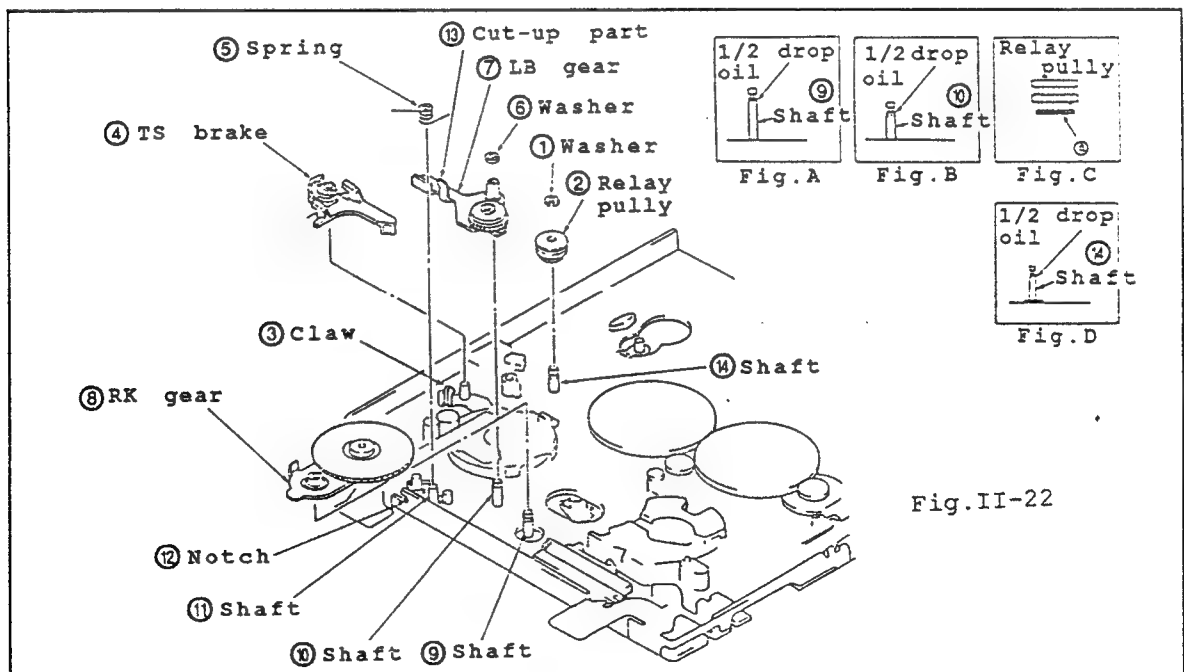

Fig.II-22
• Disassembling (Fig.II-22)
- (1) Set unloading state.
- (2) In the same procedures in "3-3", dismount the capstan motor.
- (3) In the same procedures in "3-13", detach the switch lever.
- (4) In the same procedures in "3-14", detach the timing belt(L), the RC gear, the loading lever, the timing belt (S) and the joint gear.
- (5) To take off the relay pully ②, remove the washer ①.
- (6) To detach the TS brake ④, unhook the claw ③.
- (7) Remove the spring ⑤.
- (8) To detach the LB gear ⑦, remove the washer ⑥.
- (9) Detach the RK gear ⑧.
*Note: When taking off the relay pully ②, do not touch the flange part ④.
• Reassembling (Fig.II-22)
- (1) Apply the 1/2 drop of oil to the shaft ⑨. (Fig.A)
- (2) Install the RK gear ⑧ to the shaft ⑨ longitudinally.
- (3) Apply the 1/2 drop of oil to the shaft ⑩. (Fig.B)
- (4) Install the LB gear ⑦ to the shaft ⑩. Then secure it with the washer ⑥.
- (5) Put the spring into the shaft ⑪. Then, hook it to the notch ⑫, and cut-up part ⑬.
- (6) Assemble the TS brake ④, and hook the claw ③.
- (7) Apply the 1/2 drop of oil to the shaft ⑭. (Fig.D)
- (8) Attach the relay pully ② to the shaft ⑭, and secure it with the washer ①.
- (9) In the same procedures in "3-14", attach the timing belt(L), the RC gear, the loading lever, the timing belt(S) and the joint gear.
- (10) In the same procedures in "3-13" and "3-3", install the switch lever and the capstan motor.